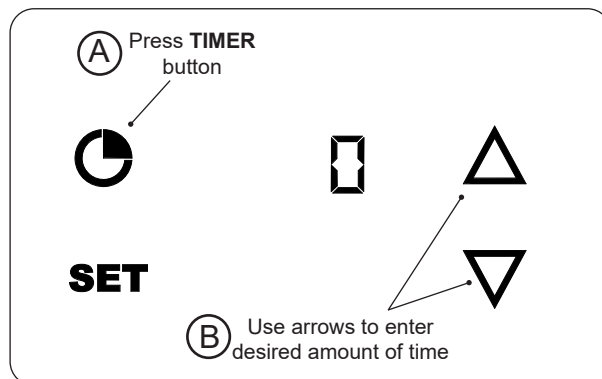

Fig. 35-1 Set timer
1. With the thermometer **on**, press the **TIMER** button once (Fig. 35-1, A). A zero will display indicating that no timer is set.
2. Press the **UP** or **DOWN** arrows to enter the desired amount of time (Fig. 35-1, B).